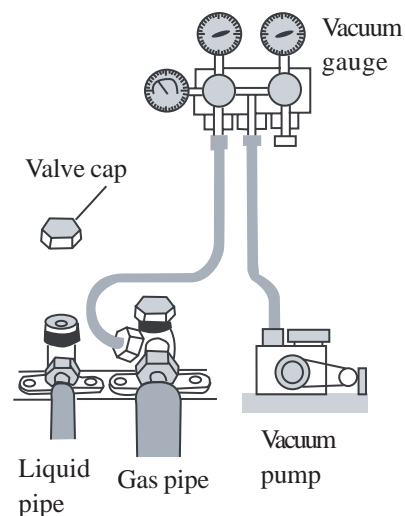

Fig.11-10
- If possible, discharge air and moisture remaining in the refrigerant system with a vacuum pump. (Shown in Fig.11-10)